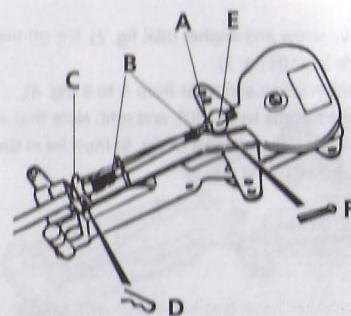

Fig. 7
- Remove the nut (A fig. 7) and both rubber seals (B fig. 7) from the cable.
- Push the cable through the bracket (C fig. 7)
- Secure the cable with the locking pin (D fig. 7)
- Connect the pivot to the throttle lever (E fig.7) and secure with the split pin. (F fig. 7)